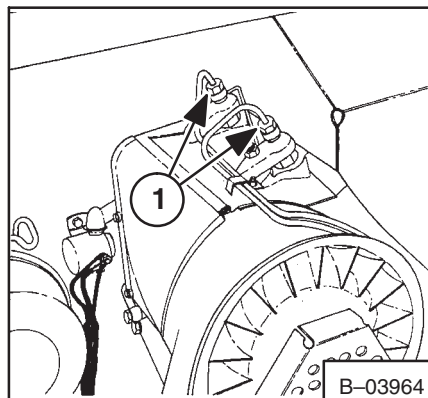

**Fig. 1–22** Loosen The Slotted Plug (641)
1. Loosen the slotted plug on the injector pump (Fig. 1–22, Item 1) and activate the priming lever on the fuel pump until fuel is flowing from the loosened plug containing no air.